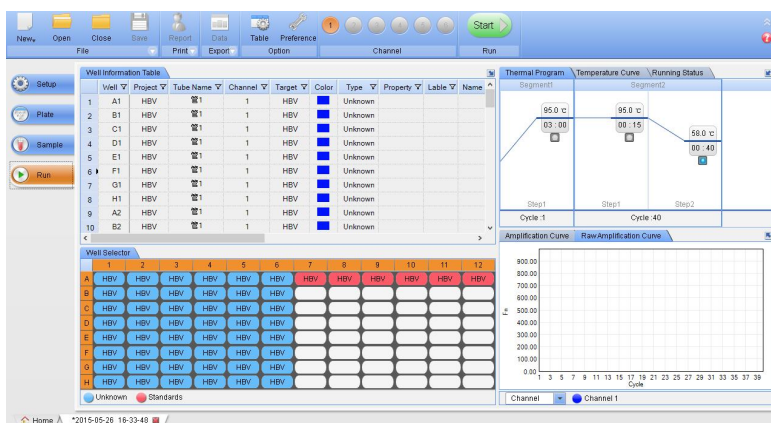

Fig 4- 28
- 1 Click **Run** tab to enter the **Run** screen (Fig 4- 28), on which such information as test samples and projects is displayed. Place sample tubes in the reaction block of the instrument according to the sequence of the Well Selector. Click the  button to run the experiment.